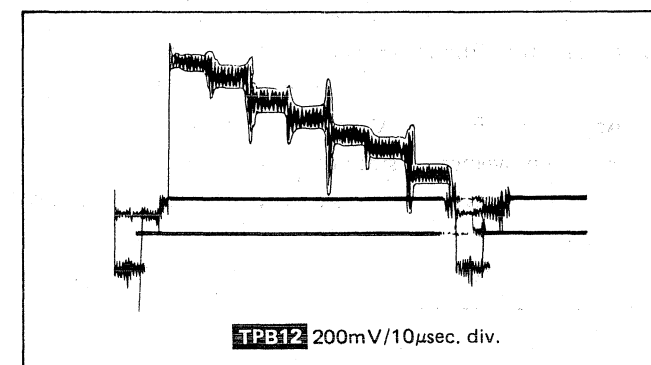

Fig. 13
- Measure and record the amplitude of the waveform **TPB12** as shown in Fig. 13.